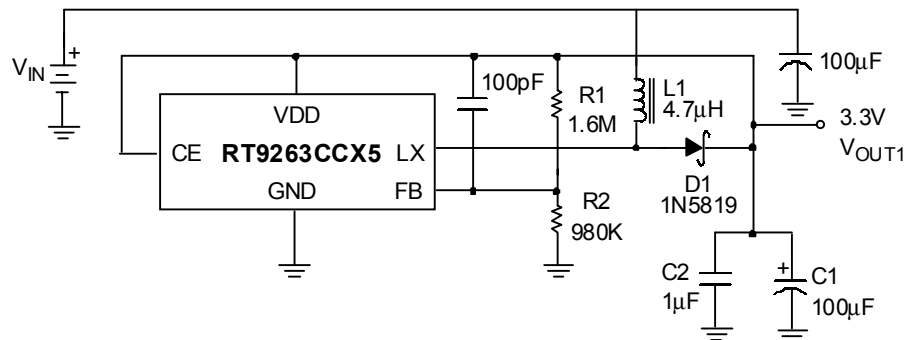

Fig. 1 RT9263CCX5 Typical Application for Portable Instruments below 400mA
Referring to application circuits Fig.1 to Fig.4, the output voltage of the switching regulator (V_{OUT1}) can be set with Eq.1.
Referring to application circuits Fig.1 to Fig.4, The selection of R1 and R2 based on the trade-off between quiescent current consumption and interference immunity is stated below:
- A proper value of feed forward capacitor parallel with R1 on Fig.1 to Fig.4 can improve the noise immunity of the feedback loops, especially in an improper layout. An empirical suggestion is around $100pF \sim 1nF$ for feedback resistors of $M\Omega$, and $10nF \sim 0.1\mu F$ for feedback resistors of tens to hundreds $K\Omega$.